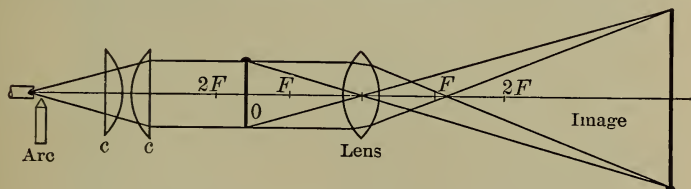

FIGURE 114. — A PROJECTION LANTERN.
**146. The Projection Lantern.** — The projection lantern (Figure 114) is an application of the converging lens with the object placed between  $F$  and  $2F$ .
An arc light is used to illuminate the object ( $O$ , Figure 114), which is usually a picture on a glass plate called a *slide*. In order that more of the light from the arc may strike the object, and in order that it may come in parallel